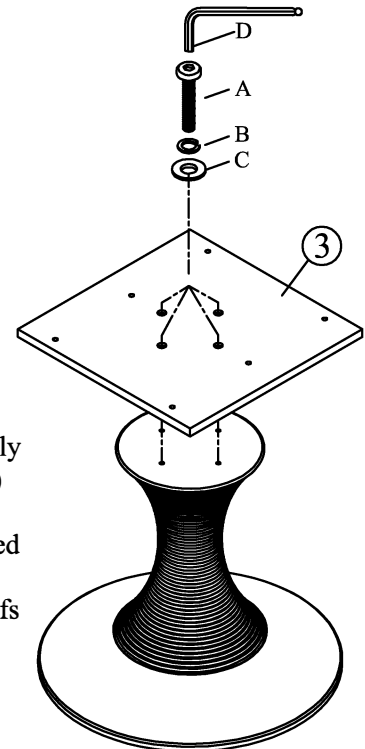

Figure 2
STEP 2. Attach the bridge (3) to the leg assembly using bolt (A), lock washer (B), flat washer (C) and tighten them by allen key (D). See Figure 2